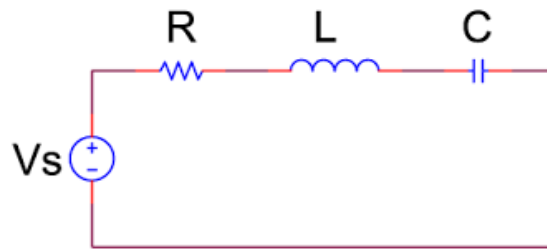

Figure 13.3: Series RLC circuit
- Consider the series RLC circuit shown in Fig. 13-3.